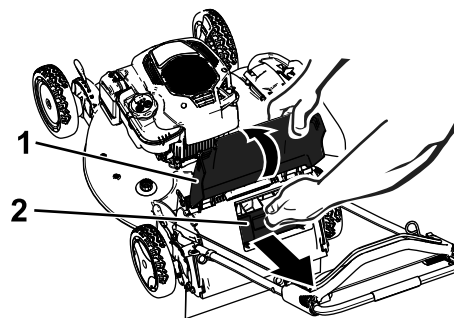

Figure 33
1. Raise and hold up the rear door (Figure 33).
2. Pull out the rear-discharge plug (Figure 33).